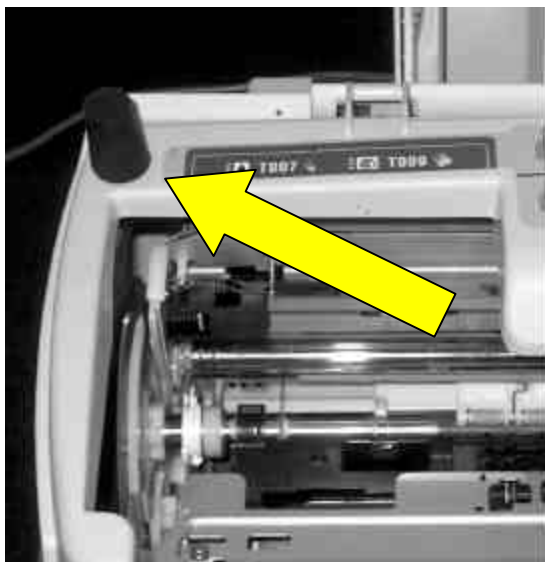
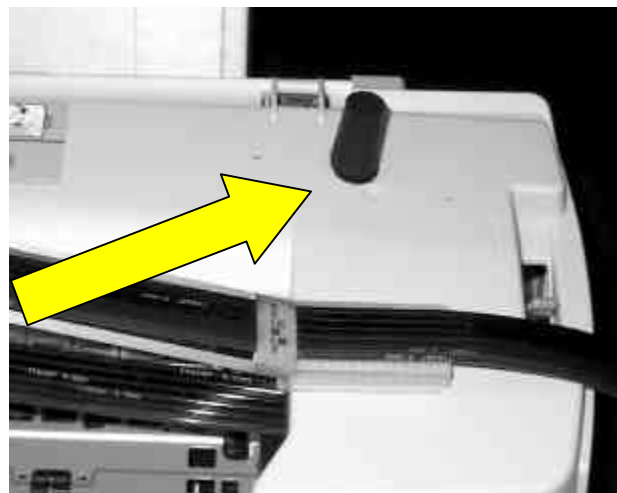

Fig. 9
Fig. 10
10. Mark the position for the rubber bumpers used to prop open the lid. The bumpers should be far enough towards the back of the printer, to keep the lid from putting pressure on the Acrylic Support arm. See Fig 9 and Fig 10.